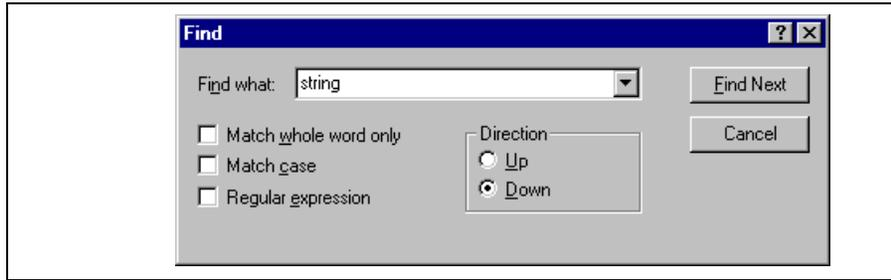

Figure 4.2: Find Dialog
3. Select **[Edit->Find...]**, press **CTRL+F**, select **[Find...]** from the editor window's local menu or find toolbar button . The "Find" dialog box will be displayed * MERGEFORMAT (figure 4.2).